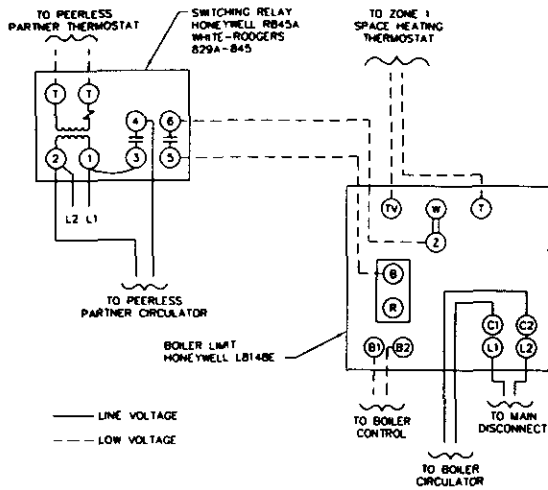

Figure 7: Wiring Diagram – M/MIH
- a. MI/MIH. For zoning with zone valves or three-way valve, connect zone valve end switch to limit terminals T and TV. For zoning with circulators, refer to Figure 7.